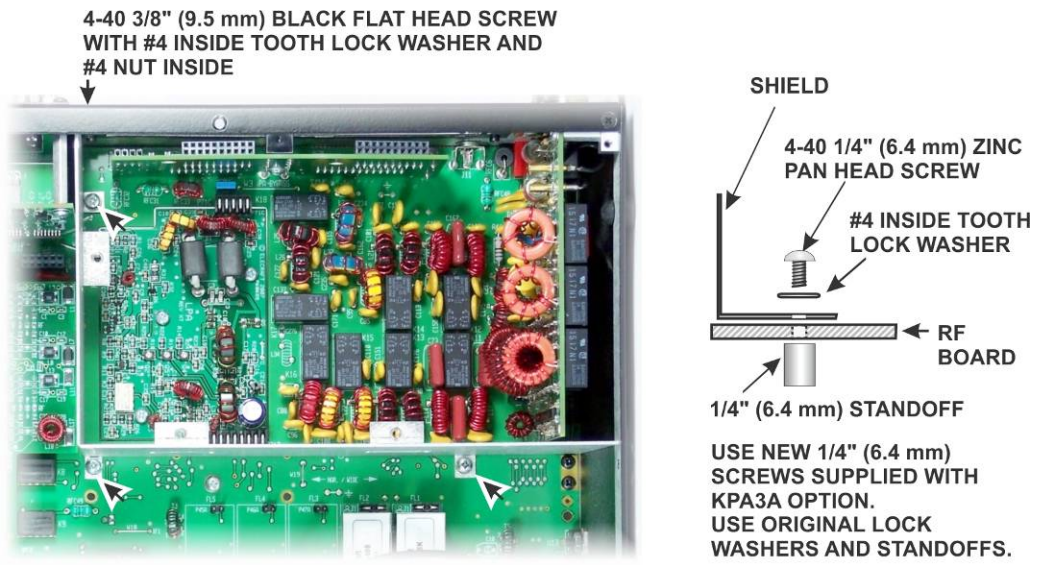

Figure 8. Rear Shield Installed.
- Loosely secure the rear shield with three 1/4" (6.4 mm) zinc pan head screws, the lock washers and standoffs you removed earlier as shown in Figure 8.
Place a black 4-40 3/8" (9.5 mm) flat head screw through the hole in the back panel and the tab at the top edge of the shield as shown in Figure 8. Secure it with a #4 inside tooth lock washer and 4-40 nut.